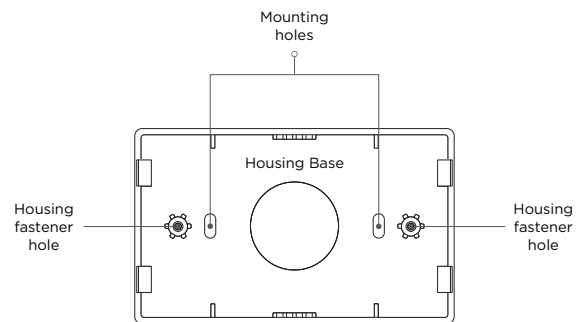

Figure 1: Mounting Hole Locations
2. Insert screws through the desired mounting holes on the housing base. Refer to Figure 1 for mounting hole locations.